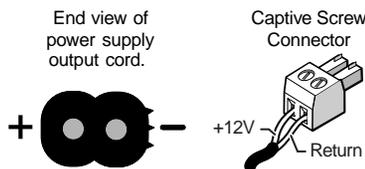

Figure 2-6 — Power connector wiring
⑦ **Power connector** — Plug the external 12V power supply into this 2-pole captive screw connector. The power supply is included with the unit. Figure 2-6 shows how to wire the connector.